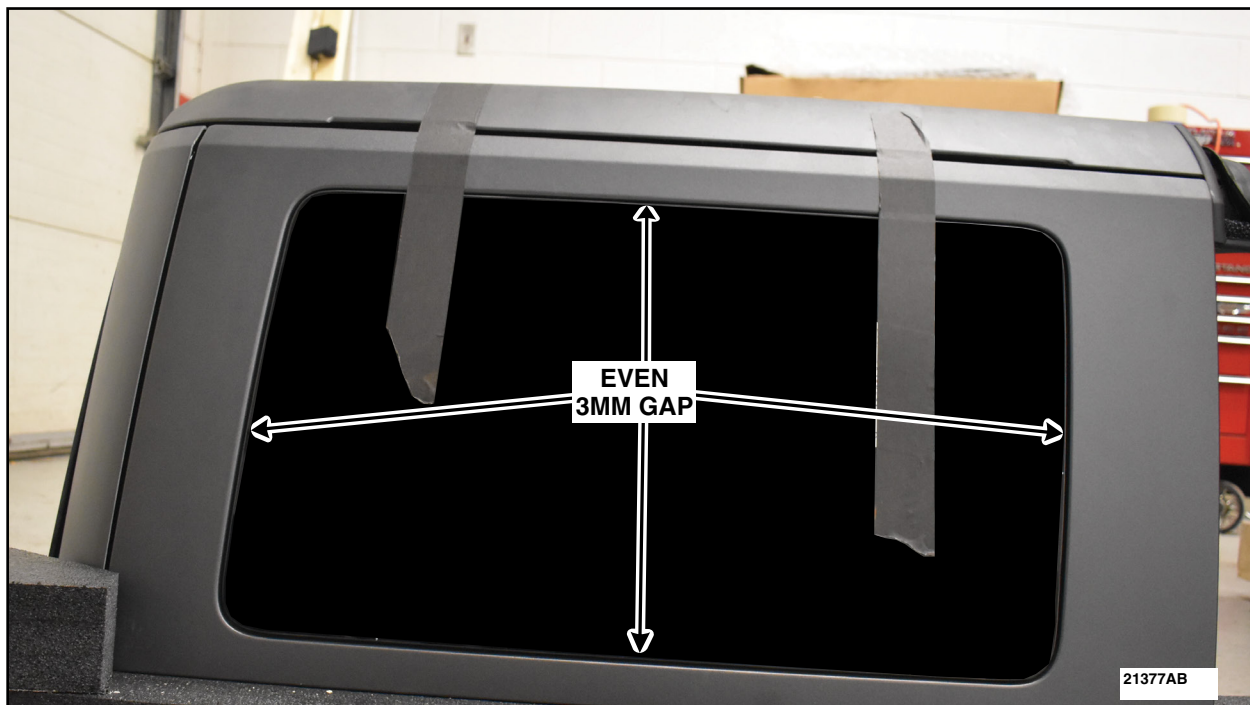

FIGURE 7
7. Using 50mm (2 in) wide masking tape, secure the *new* quarter glass to the *new* hard top rear cap assembly while the urethane cures. Ensure there is an even 3mm (0.12) gap all the way around the quarter glass. See Figure 7.